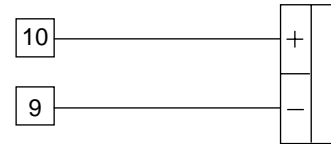

Figure 8. Calibrator Connection
- a) Connect calibrator and instrument as shown in Figure 8.